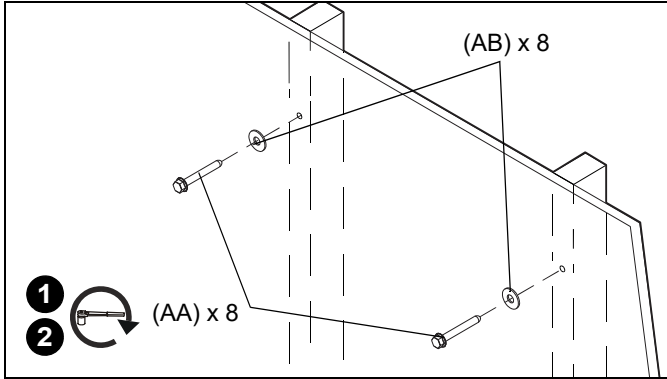

Figure 17
1. Use one 5/16" x 2-1/2" hex flange head lag bolt (AA) and one 5/16" washer (AB) through product and into pilot hole. (See Figure 17)